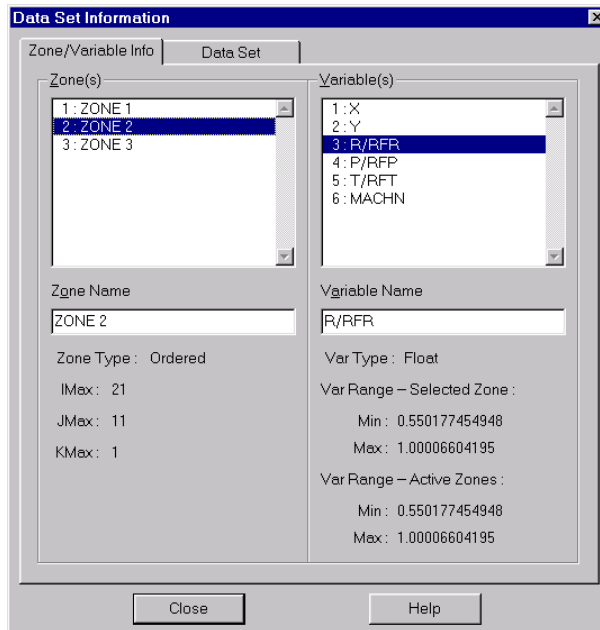

Figure 25-2. The Data Set Information dialog.
25.1.1.2. Data Set Information. To view a list of variable names and numbers, select Data Set Info on the Data menu, or click Data Set Info on the Specify Equations dialog. The Data Set Information dialog appears, as shown in Figure 25-2, listing all the variables in the current data set.